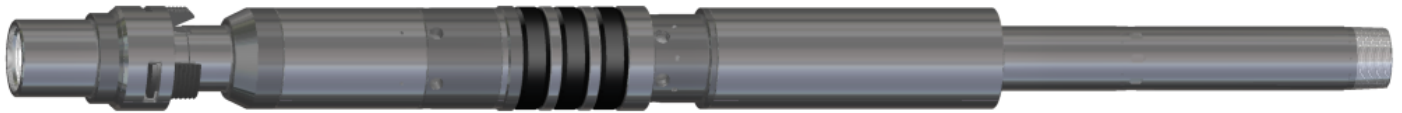

Fig. 14
L-13.1) While gripping in the element area, slide pre-assembled assemblies (by-pass housing assembly, rubber mandrel assembly, and setting chamber assembly) onto mandrel assembly past making contact with o-rings and on upwards to upper cone (9) (Fig. 14).